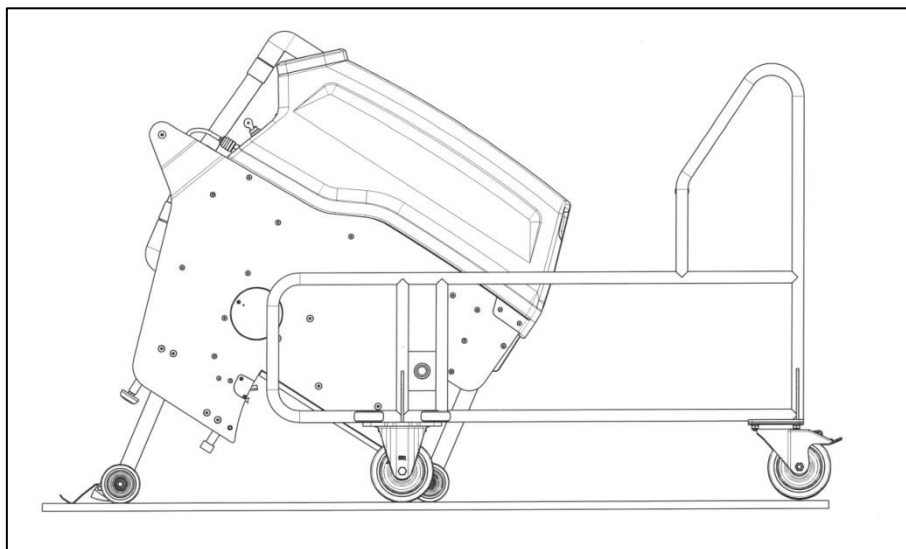

Figure 17 Moving into maintenance position
In preparation for maintenance, the machine is removed from the transport trolley with the shaft in front, after the fixing axle (31) has been withdrawn, and driven into the shaft (see Fig. 17: Moving into maintenance position).